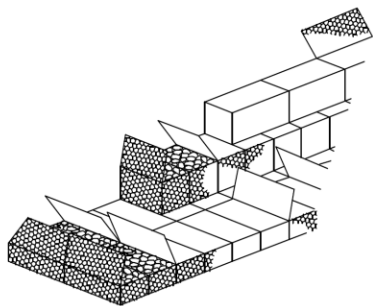

FIGURE 4
4. IT IS GOOD CONSTRUCTION PRACTICE TO LACE SMALL GROUPS OF GABION BOXES TOGETHER AS COMPLETE SECTIONS BEFORE JOINING THEM TO THE REST OF THE STRUCTURE, USING EXACTLY THE SAME METHOD AS FOR ASSEMBLING SINGLE BOXES. PLACE THEM FRONT TO FRONT AND BACK TO BACK, SO THAT PAIRS OF FACING LIDS CAN LATER BE WIRED DOWN SIMULTANEOUSLY (FIGURE 4).